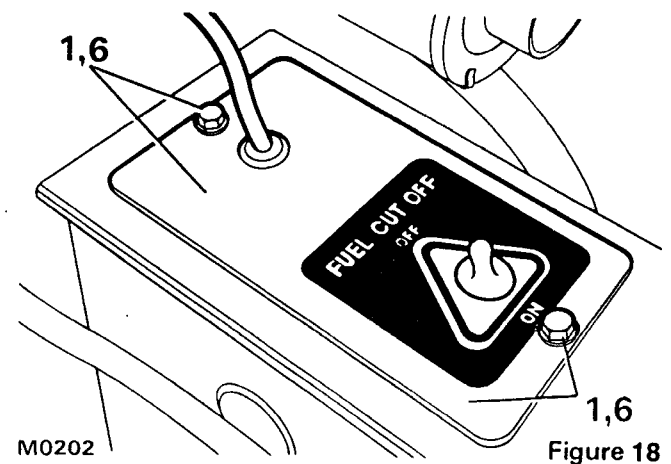

Figure 18
- 1 Remove two retaining bolts and carefully lift access plate from pedal box, see figure 18.